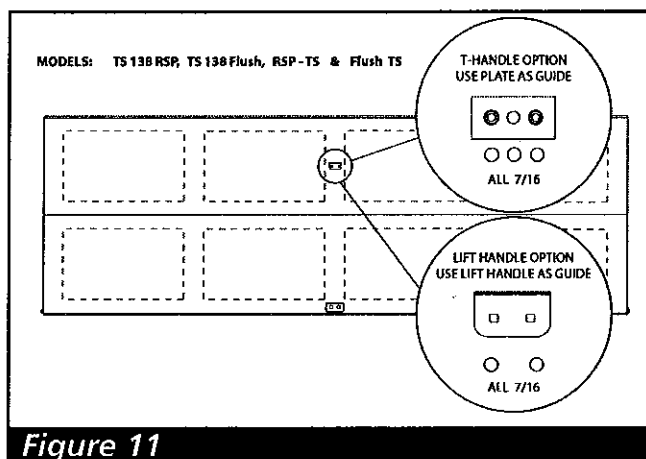

Figure 11
If you have a TS 138 RSP, TS 138 Flush, RSP-TS or FLUSH-TS door, use the lift handle as a template to locate holes in proper position. Reference the "Grip Point Compliance" inset (page 10) and Figure 11 (page 13) to assure proper location. Drill two $\frac{3}{8}$ " holes through the door.
If you have a TS 138 RSP, TS 138 Flush, RSP-TS or FLUSH-TS door, use the back plate, (Fig 12 a item 8 and Fig 11) as a template to locate holes in proper position. **NOTE:** On the RSP series doors you are locating the T-Handle between the exterior Raised